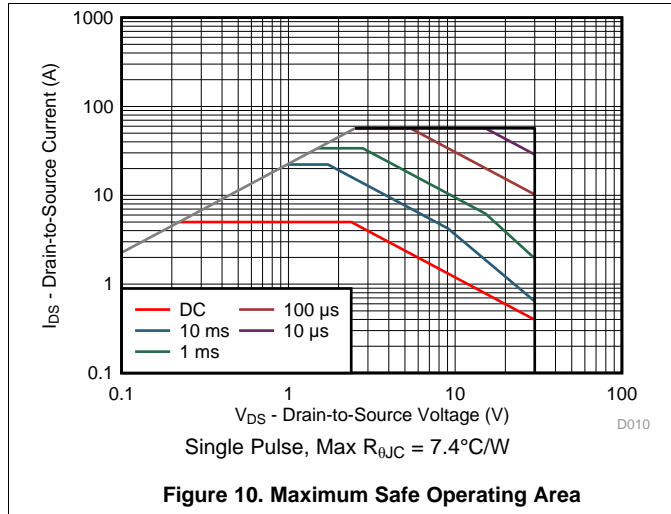

Figure 10. Maximum Safe Operating Area
• Updated the SOA in <a href="#">Figure 10</a> .....	6
• Changed <a href="#">Figure 10</a> , Maximum Safe Operating Area .....	5